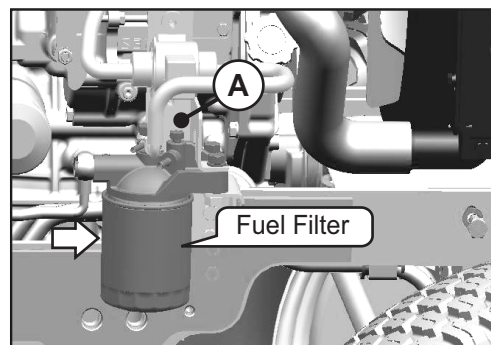

Fig. 5.3a
2. Loosen the vent plug (A, fig. 5.3a) at top of fuel filter body.
3. Tighten the vent plug (A, fig. 5.3a) after bubble free fuel flows from the air vent plug hole.